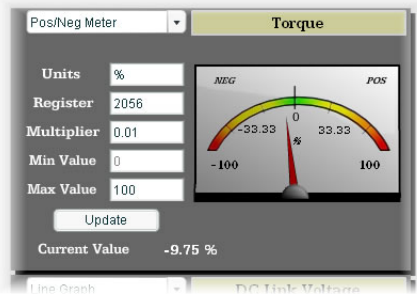

Figure 66: Pos/Neg Meter
**Pos/Neg Meter:** Refer to Figure 66. Similar to the "meter" gauge, this type of meter also implements a common panel meter-type display format, but in this instance the indicated value can be positive or negative (two's complement interpretation). In other words, raw register values of 0..0x7FFF equate to 0..3276710, and values of 0x8000..0xFFFF equate to -32768..-1. Because the meter placard is always centered around zero, the "Min Value" attribute is not configurable, and the "Max Value" attribute is used for both the maximum positive indicated value as well as the maximum negative indicated value.